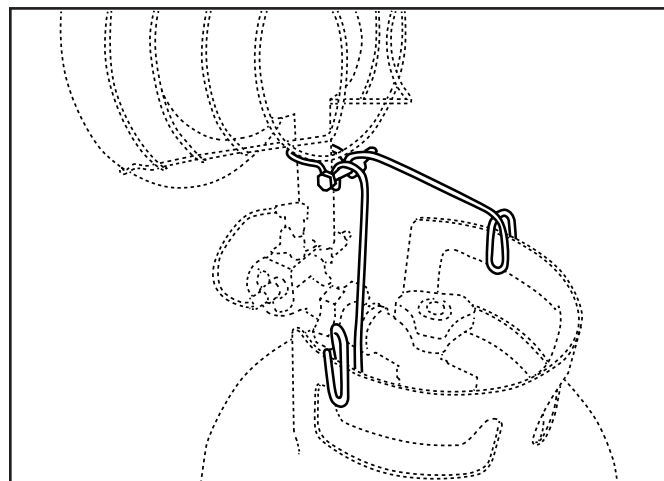

Figure 2b.
- Place heater support around venturi and slide clip ends onto propane cylinder collar. Use 1/4”-20 x 35mm screw and wing nut to secure heater support onto venturi tube. (See Figure 2b)